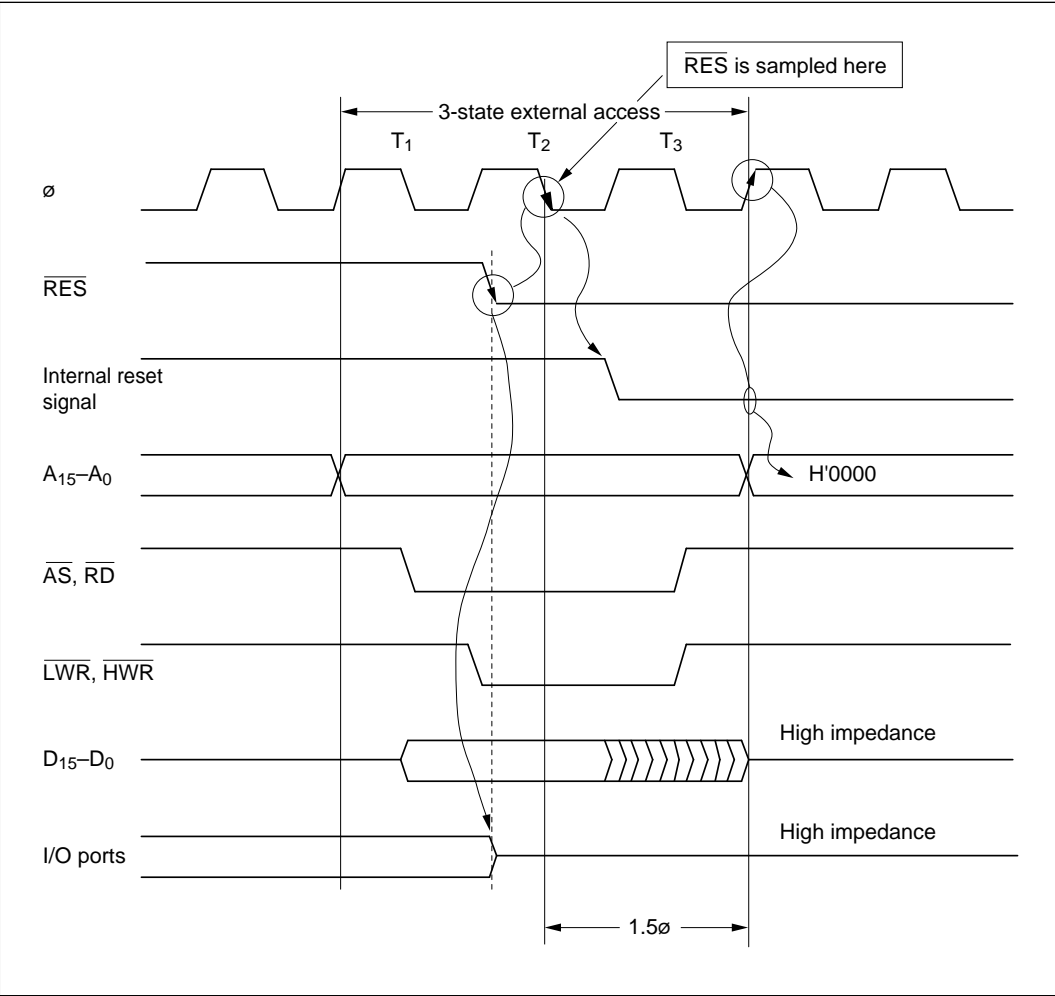

Figure G-1 Reset during Three-State Access (Modes 1 and 6)
(1) **Modes 1 and 6:** Figure G-1 is a timing diagram for the case in which $\overline{\text{RES}}$ goes low during three-state access in mode 1 or 6. As soon as $\overline{\text{RES}}$ goes low, all ports are initialized to the input state. $\overline{\text{AS}}$, $\overline{\text{RD}}$, $\overline{\text{LWR}}$, and $\overline{\text{HWR}}$ go high, and D_{15} to D_0 go to the high-impedance state. A_{15} to A_0 are initialized to the low state 1.5 system clock cycles (1.5ϕ) after the low level of $\overline{\text{RES}}$ is sampled.